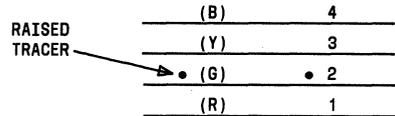
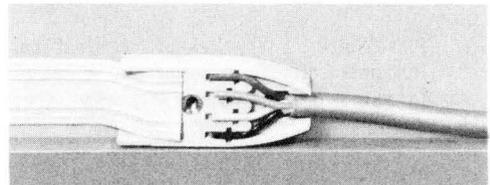

Fig. 1—Conductor Identification of B Station Wire
Fig. 10—Terminating Wire in No. 721 Transition
◆Fig. 1—Dispensing D, G, or H Station Wire◆
- (6) Always match the wire pairs when making a tap, splice, or extending a wire run to ensure correct polarity of conductors.
- (7) Identification of individual conductors may be determined by locating the raised tracer dot on the surface of the B station wire and counting the conductors as shown in Fig. 1.
- (8) Conventional station wiring colors [(BK), (Y), (G), (R)] assigned to the conductors in relation to the tracer are shown in Fig. 1. The associated numbers relate to the designations in the terminals, terminal base, etc.
- (1) Remove paper liner from back of transition.
- (2) Select location and press adhesive side of transition to mounting surface.
- (3) Remove cover.
- (4) Place B station wire in channel, butting end of wire against center stop (Fig. 10).
- (5) Remove approximately 3/4 inch of outer jacket from the D station wire. Insulation from individual conductors need not be removed. Match each conductor with the 3 station wire for correct polarity (Fig. 1) and place in wire grooves in base of transition (Fig. 10).
- (6) Place cover and tighten screw until cover is seated to base of transition.